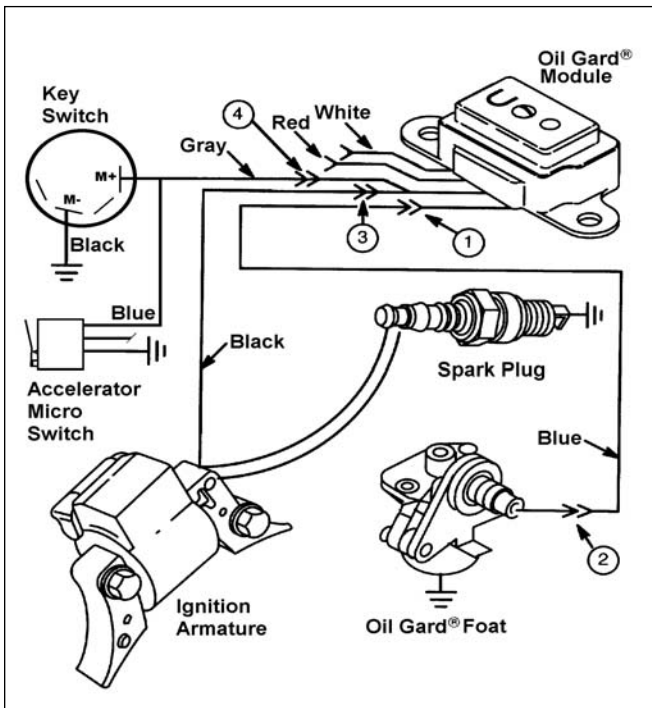

Figure 106 - Oil Guard Wiring
2. Disconnect Blue wire at #1, and gray wire at #4. See Figure 106. Start Engine.